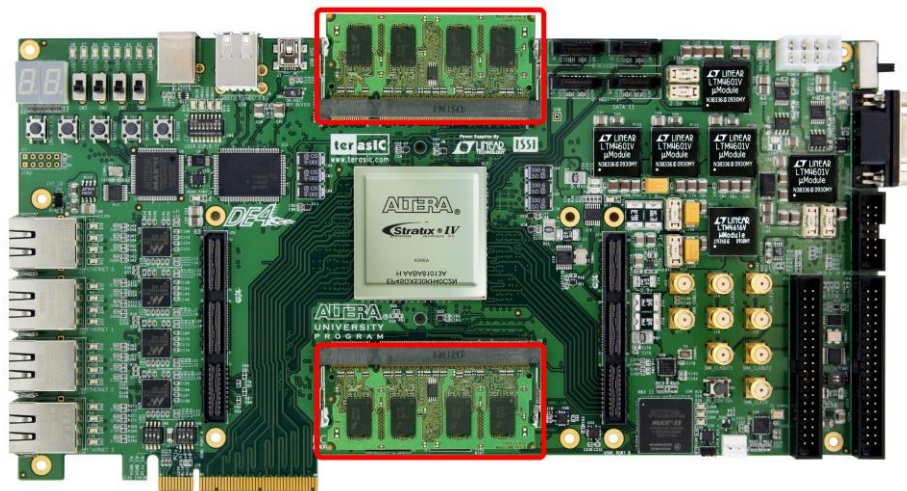

Figure 5–23 Insert DDR2-SDRAM SODIMM for the DDR2 Demonstration
- Make sure DDR2-SDRAM SODIMM is installed on your DE4 board, as shown in **Figure 5–23**.
- The program will display progressing and result information, as shown in **Figure 5–24**.